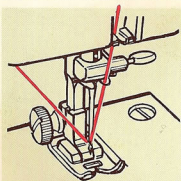

Fig. 5
5. Start machine. Wind thread until bobbin winder latch releases (Fig. 5).
5. Continue to thread down through lower thread guides as shown in Fig. 5. Needle threads from front as shown in Fig. 5.